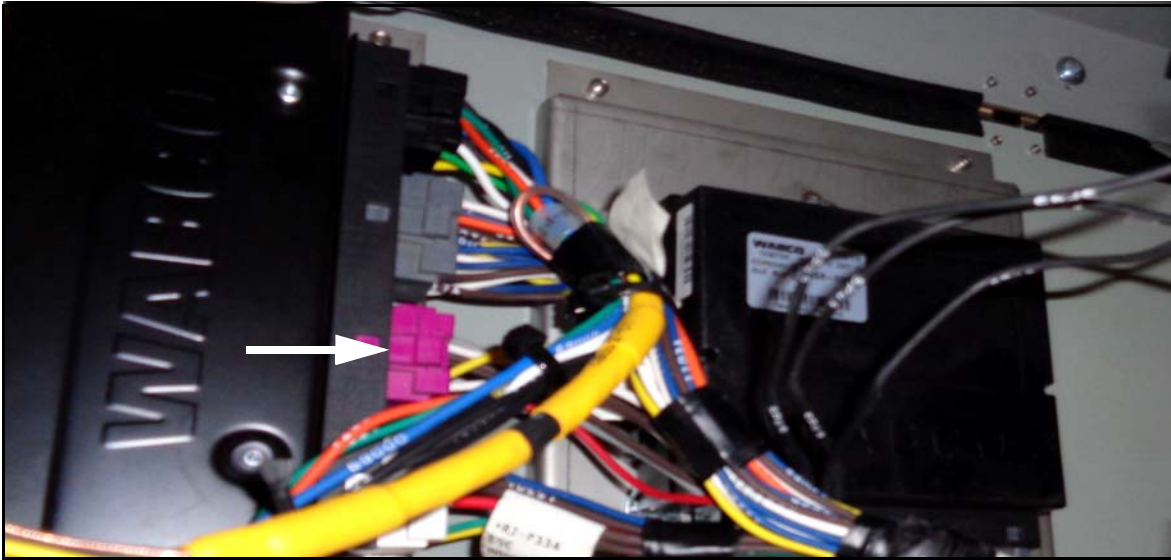

Figure 5.
16. Locate the pink Plug 332 on the Wabco ABS module mounted on the hinged closing panel (refer to Figure 5). Locate spare wires SP43 and SP45 in the bundle six (6) inches back from the plug.